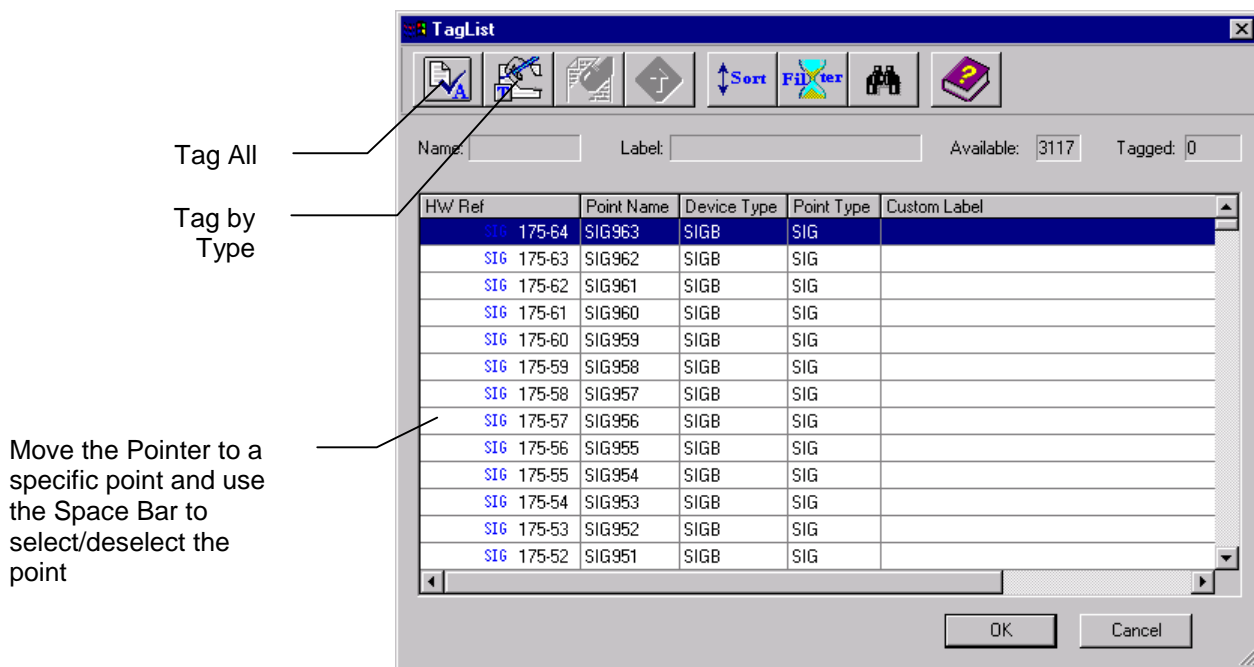

Figure 9-7. Taglist Window
2. Open the TagList window by either pressing the Insert key or right clicking in the List Window and selecting **Add List**. A TagList window, similar to the one shown in Figure 9-7, appears.